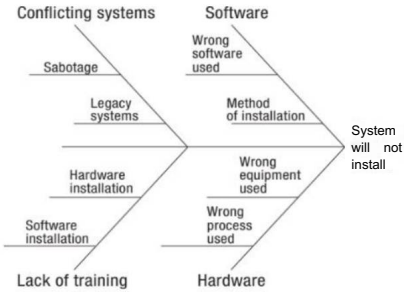

FIGURE 10.7 Cause-and-effect diagram
A team can use cause-and-effect diagrams (see figure 10.7) to confirm that policies and procedures are being followed and metrics are being used correctly, and that the procedures were adequate to produce the required level of quality in project deliverables.
Root cause analysis in Manage Quality seeks to identify the processes, procedures, and policies within the plan that may not work or that may need adjustment. Identifying the root cause of a quality problem helps the team to prevent it from recurring. Cause-and-effect diagrams (as showing in figure 10.7) help in root cause analysis.
- **Cause-and-effect diagrams** In Manage Quality, we discussed the application of the cause- and-effect diagram to determine the root cause of quality issues relating to plans, processes, or procedures. In Control Quality, this tool can be used to lookbackward at what may have contributed to defects that have occurred as well as to analyze the impact of defects on the quality and acceptability of a deliverable. Look back to figure 10.7 to review this concept.